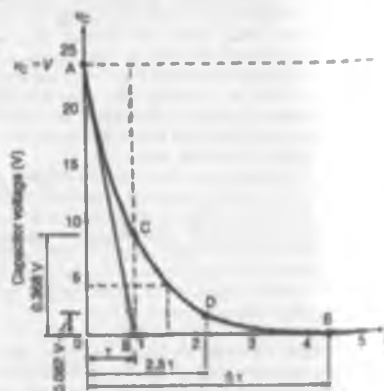

Figure 18.5
(a) The exponential decay of capacitor voltage is from 24 V to 0 V in a time equal to five time constants, i.e. $5 \times 0.88 = 4.4\text{ s}$. With reference to Fig. 18.5, to construct the decay curve:
- (vi) the value of the transient after a time equal to two and a half time constants is 0.082 of the initial value, i.e. $0.082 \times 24 = 1.97 \text{ V}$, shown as point D in Fig. 18.5,
- (b) The voltage drop across the resistor is equal to the capacitor voltage when a capacitor is discharging through a resistor, thus the resistor voltage/time characteristic is identical to that shown in Fig. 18.5. Since $v_R = v_C$, then at 1.5 seconds after decay has started, $v_R \approx 4.4 \text{ V}$ (see (vii) above).